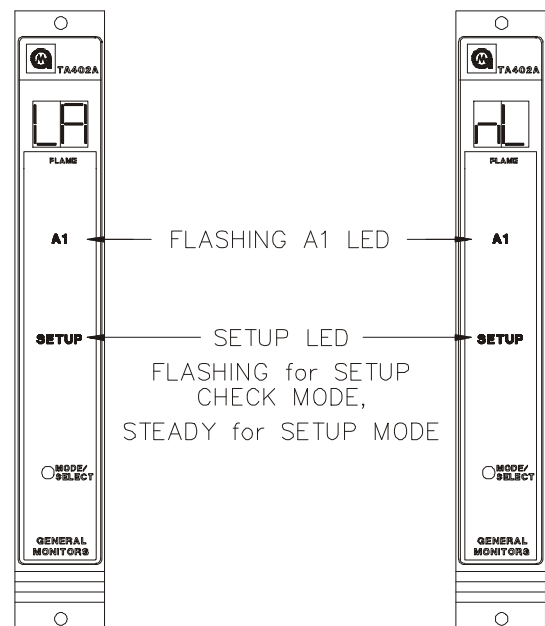

Figure 20
- The **A1** LED on the front panel will be flashing while the latching/non-latching option is displayed (figure 20). The display will indicate the current selection, (**nL** or **LA**). Press the Mode/Select switch until the desired option is displayed. Non-Latching is the factory default for this selection.